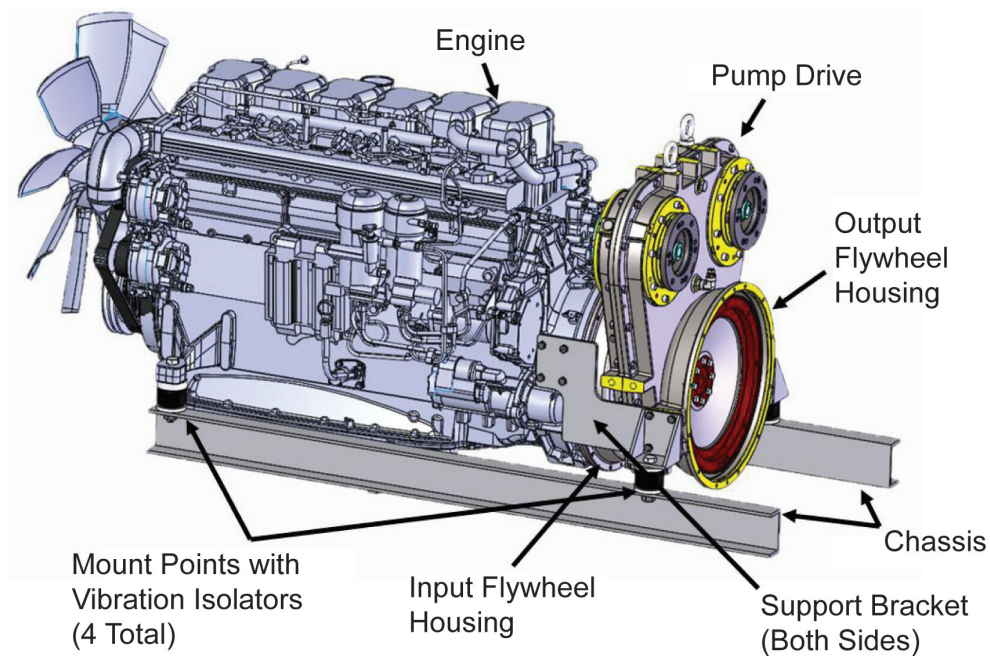

Figure 11. Recommended Installation
2. The number of mount points supporting the engine/pump drive assembly to a chassis must not exceed 4. See Figure 11.